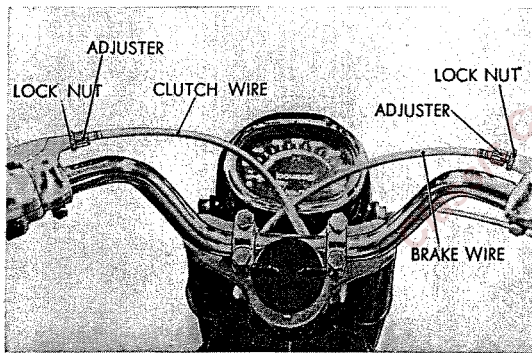

Fig. 6.27 Clutch cable adjuster
c. Turn the clutch cable adjuster to obtain the correct amount of play. (Refer to Fig. 6.27)